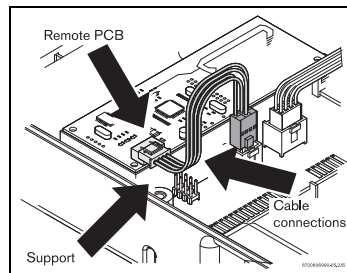

Fig. 5
- Remove the other protective paper and attach the remote control PCB as shown in Fig. 5.
- Use the supplied cable to connect between the main PCB and the remote control PCB as shown in Fig. 5.